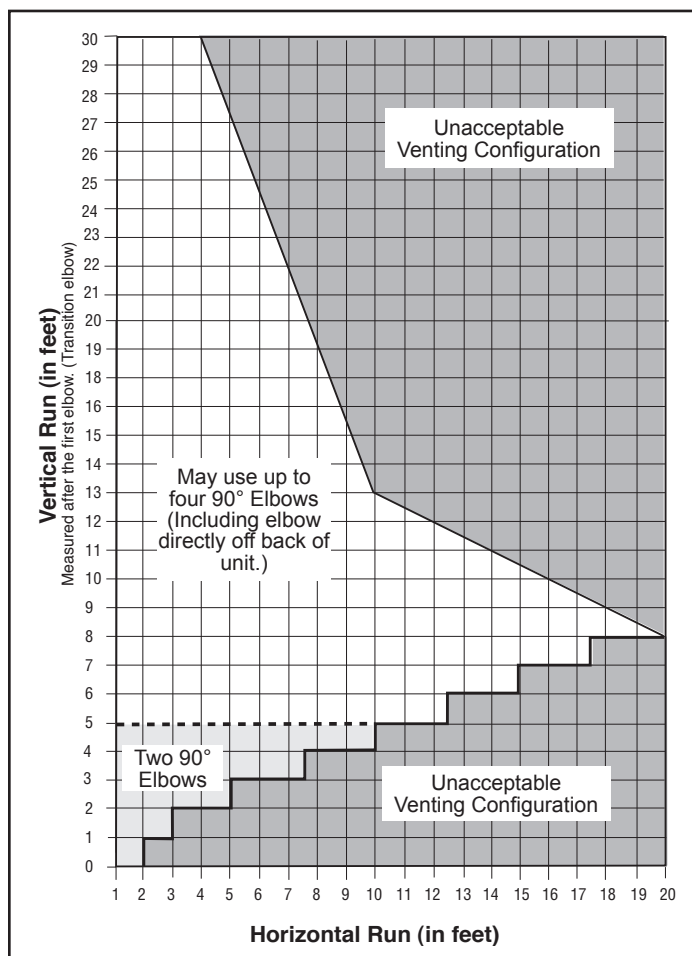

Figure 7 - Horizontal vent termination window.
The vent must rise vertically a minimum of 24" (610 mm) after the first elbow directly off the back of the unit, before the next elbow. The horizontal run may extend up to 20' (6 m) and include a vertical rise of up to 40' (12 m), Figure 7. Horizontal termination must also meet the criteria shown in Figures 11 and 12.
- Approved vent systems must terminate above and including the heavy line in Figure 7.